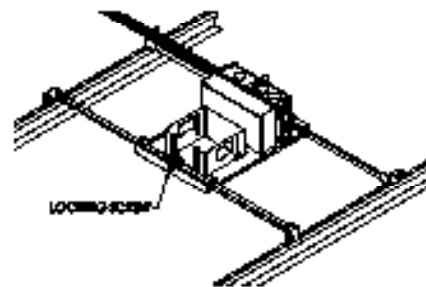
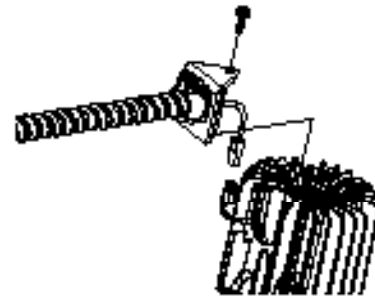

FIGURE 2
FIGURE 6
1. Loosen locking screws to extend hanger bars. See Figure 2.
2. Fasten conduit adapter to trim housing using the screw provided (see Figure 6).
2. Disconnect conduit adapter by loosening screw. (See Figure 6)
4. Remove (3) screws and remove adjustment ring.
6. Disconnect leads and reconnect to new driver. Refer to Figure 2 for wiring diagram.
4. Remove heatsink from lower housing by removing (3) screws and lifting off.